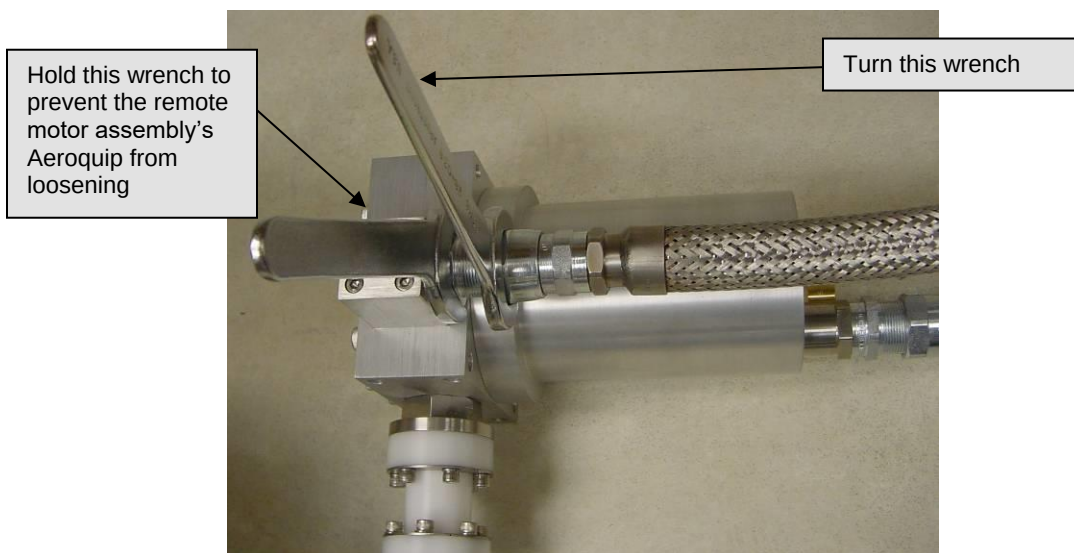

Figure 7-3: Disconnecting flex lines from a cold head
- 11) For remote motor cold heads see Figure 7-3. Disconnect the Aeroquips® on the high- and low-pressure fittings on the remote motor assembly by turning the flexible line's Aeroquip® counter-clockwise with one wrench while holding the remote motor assembly's Aeroquip® with the other wrench.